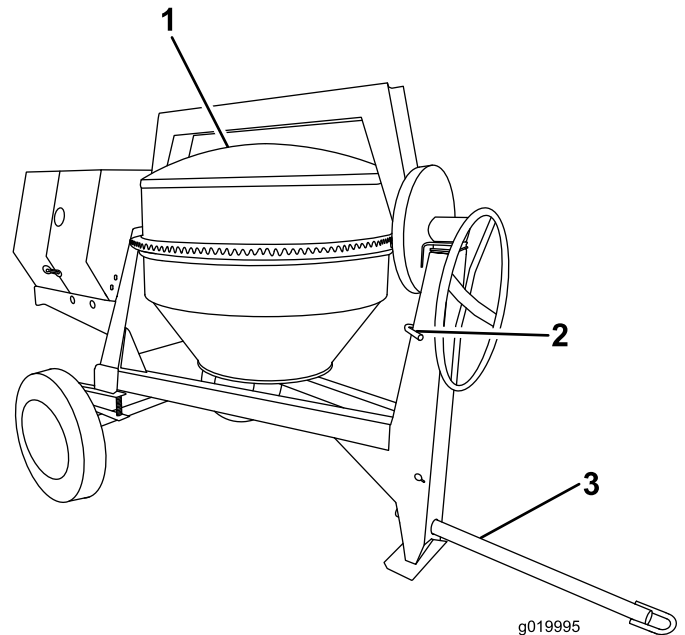

Figure 10
2. Using the handwheel, position the drum so that it is pointing down toward the ground (Figure 10).